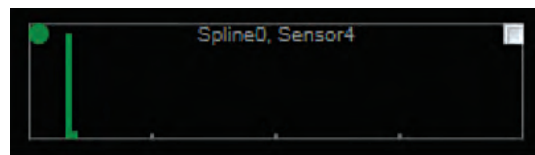

Figure D-4. Example of a static range difference throughout AcQMap Catheter rotation.
4. No targets should report the same range throughout a rotation of the AcQMap Catheter. (*Figure D-4*).